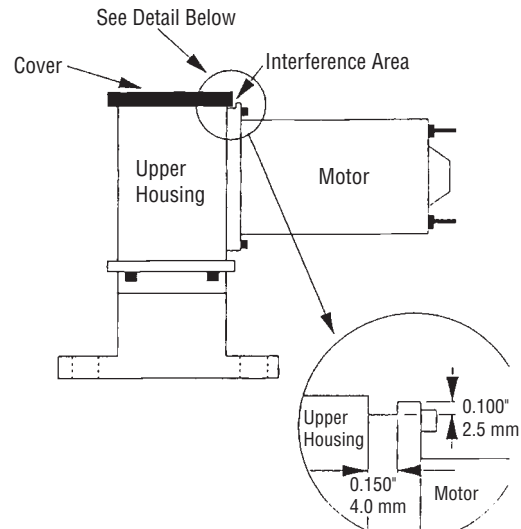

Fig. 1 - Electric Shift Unit Cover Fit Modifications
3. Using a file or small die grinder, remove material from the motor base (as shown in Fig. 1. **The notch should be at least 0.100" (2.5mm) deep and 0.150" (3.8 mm) wide.** Trial fit the cover during modification.